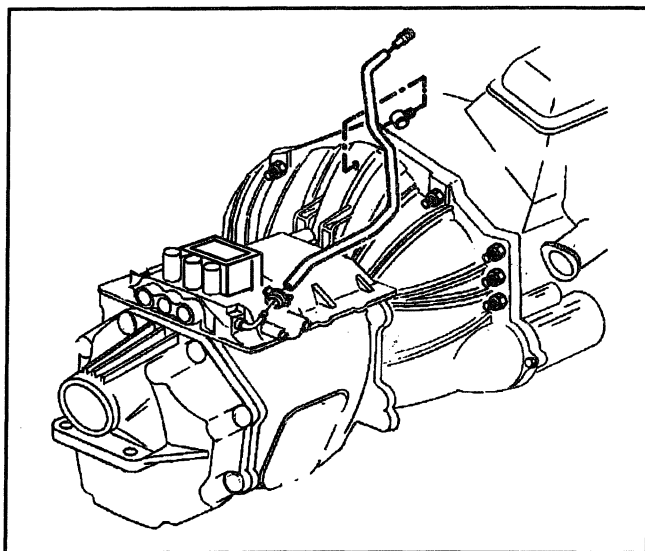

Figure 16—Transmission Vent Hose (NV4500)
12. Transmission vent hose from the NV4500 transmission (Figure 16).
1. Clutch housing to the engine (Figure 16).
10. Transmission vent hose on to the NV4500 transmission (Figure 16).